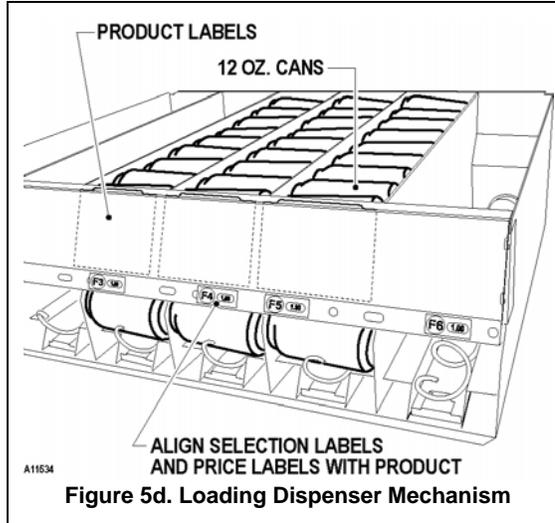

Figure 5d. Loading Dispenser Mechanism
Load product horizontally from front to rear and stacked a maximum of three (3) levels high. See Figure 5d.